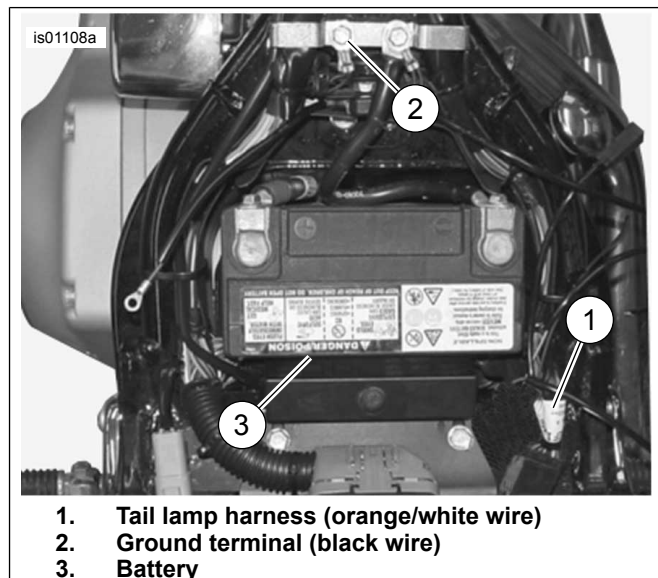

Figure 3. Power and Ground Connections (Softail Models)
4. See Figure 3. Install the ring terminal onto the ground screw threads. Fasten the ground screw to the frame (2). Secure per the torque specification in the service manual.
1. See Figure 3. Carefully slice open an area of the tail lamp harness (1) wrap at an accessible point under the seat, and cut the orange/white wire.